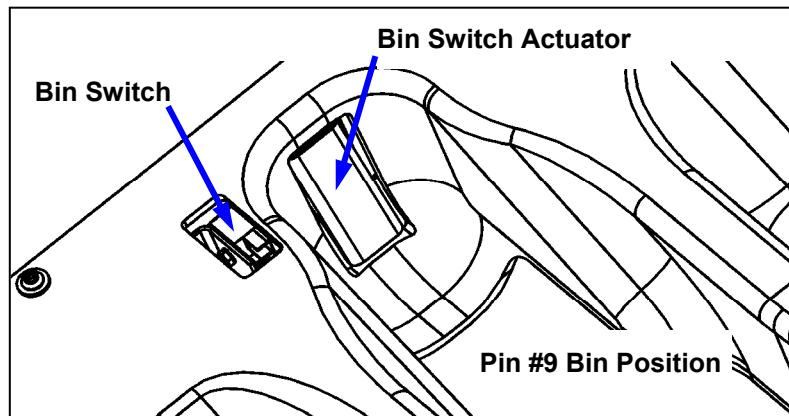

Figure 4.2-32
The bin switch (BS) is located in the bin framework between the #8 and #9 pin locations. The #9 bin position is the last one filled when preparing the bin for the next setup of pins. When the 10th pin is delivered to the #9 bin position, it actuates the bin switch (see Figure 4.2-32), which sends a signal to the chassis indicating that 10 pins are ready for a spotting cycle.